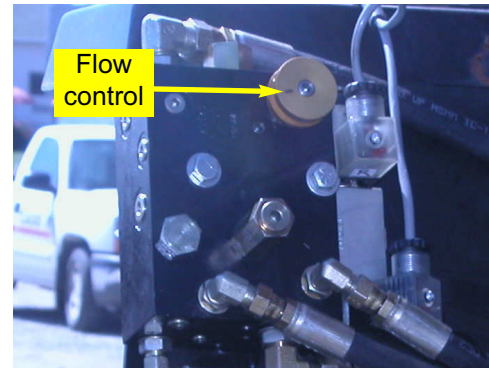

Figure 9. Automated Steering flow control.
- g. Adjust the Automated Steering oil flow control to achieve an end to end steering cycle time of approximately **11** seconds. Use the knurled locking nut to secure the final flow control setting. (Figure 9.)